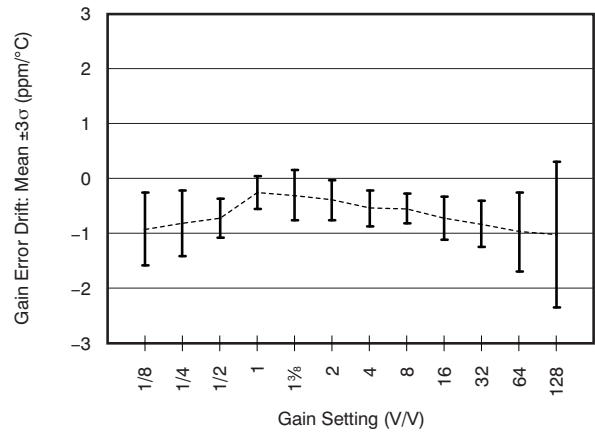

Figure 11. Gain-Error Drift Distribution vs Gain Setting (Mean With $\pm 3\sigma$)
(5) Gains smaller than $\frac{1}{2}$ are measured with smaller output swing.
(6) See Figure 11 for typical gain error drift of various gain settings.
(7) Only G = 1 is production tested.